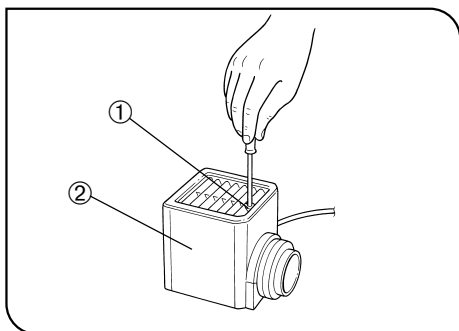

Fig. 22
#### 3 Attaching the Halogen Bulb (Figs. 22 to 24)
5. Slide the lamp housing cover onto the housing base from the above. Tighten the clamping screw ① while pressing downward on the cover. (Fig. 22)